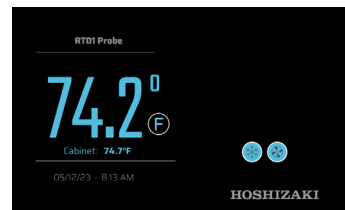

Fig. 18
- 6) Press the home icon to return to the touchscreen setup view. See Fig. 17. The touchscreen setup view returns to touchscreen normal view after 1 min. See Fig. 18. Note: If an alarm is present (alarm icon lit) touchscreen remains in setup view until alarm is cleared.